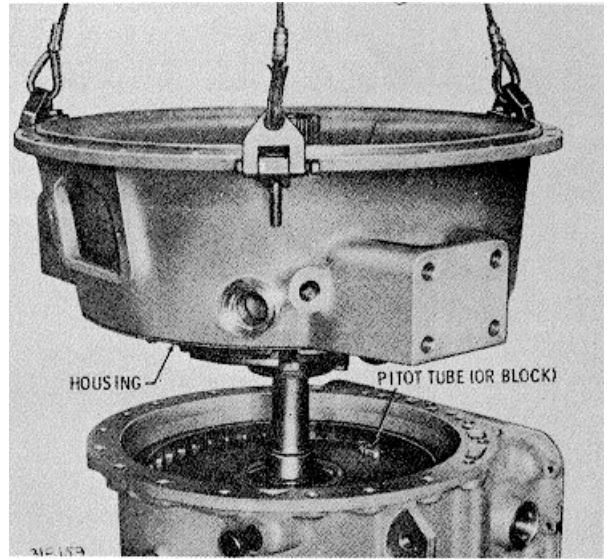

Fig. 5-26 Removing torque converter housing
(4) Remove the converter housing from the transmission housing with the lifting sling and place it on the work table (fig. 5-26).
(5) Refer to paragraph 6-9 for rebuild of the converter housing assembly.
(6) Remove the pitot tube or steel block (fig. 5-26). freed in item (1), above.